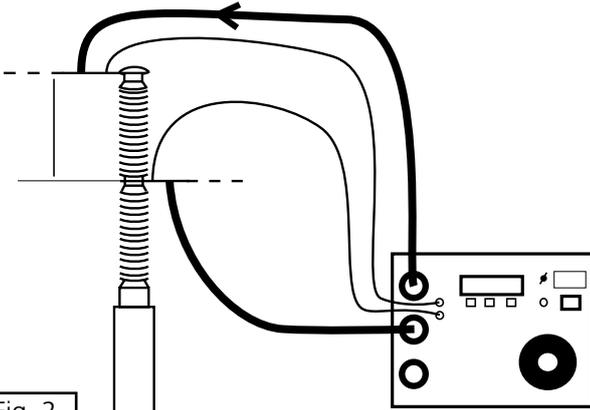

Fig. 2
- 4] Connect the current cables and the sensing cables (with the same polarities) on both sides of the breaker. The sensing cables must be connected inside the current cables. Otherwise the test data may be incorrect. See fig. 2.